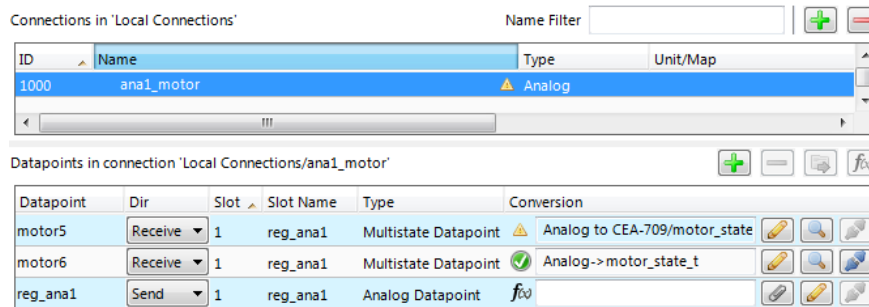

Figure 38: Connection tab with a connection and data points.
4. Now the connection tab contains the new connection and below the list of data points in that connection as shown in Figure 38.